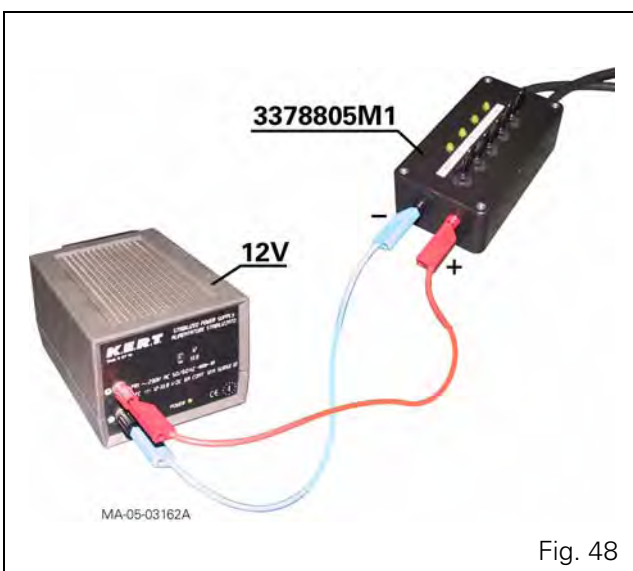

Fig. 48
- Connect the tool to a 12V, 4A power supply (Fig. 48).